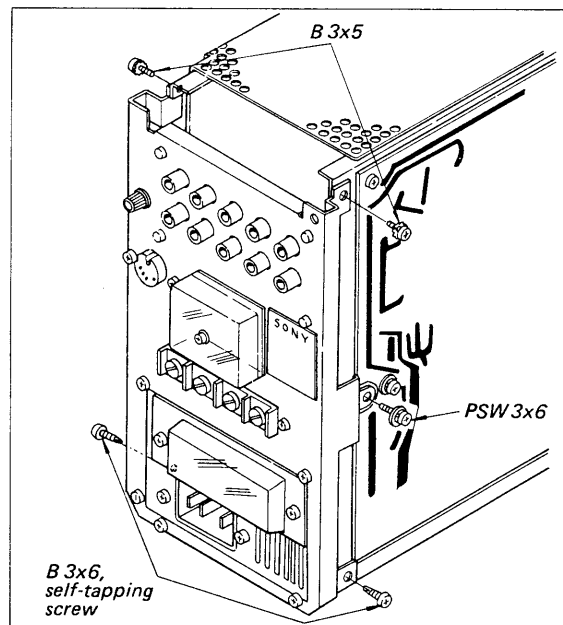

Fig. 2-10. Rear panel removal
2. Remove the five screws shown in Fig. 2-10.